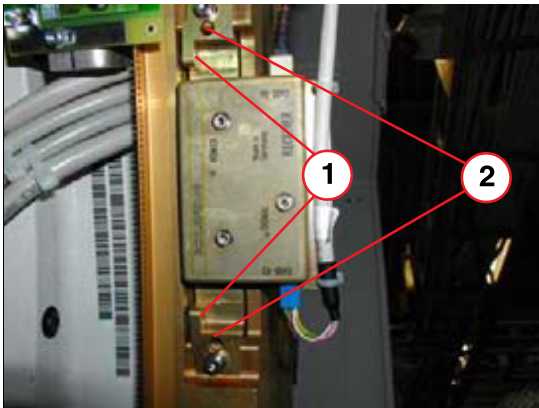
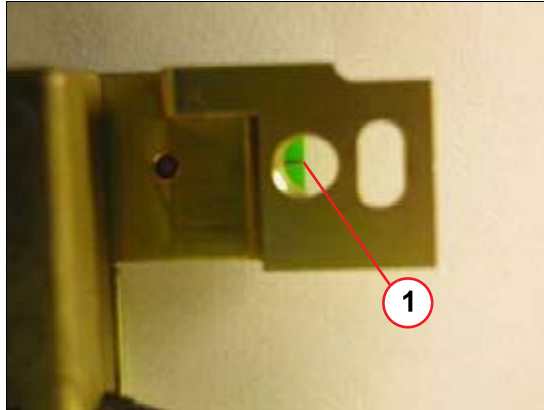
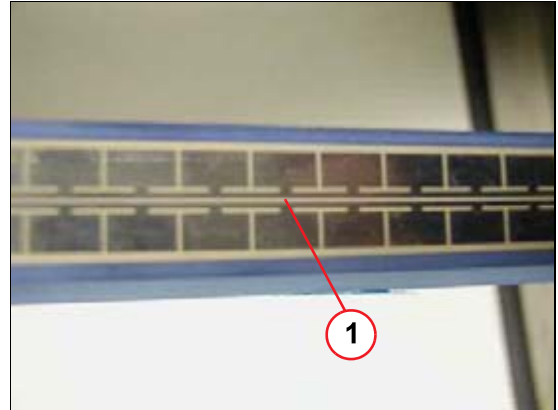

Fig. 175: Receiver
Fig. 176: Marker of Receiver
Fig. 177: Antenna
The receiver has to be adjusted parallel to the antenna. Follow the instruction as shown in figures \(Fig. 175 / p. 252\) \(Fig. 176 / p. 253\) \(Fig. 177 / p. 253\)
- The marker of the receiver(2/Fig. 175 / p. 252) (1/Fig. 176 / p. 253) must be adjusted congruent with the center line of the antenna (1/Fig. 177 / p. 253). The marker is located on the printed circuit board behind the hole (2/Fig. 175 / p. 252)(1/Fig. 176 / p. 253).
- Use 2 screws M4x12 (1/Fig. 175 / p. 252) for fine adjustment of the receiver. Press the receiver against the inner ring of the gantry and turn the screws, so that both markers (2/Fig. 175 / p. 252) resp. (1/Fig. 176 / p. 253) of the receiver are congruent with the center line of the antenna.